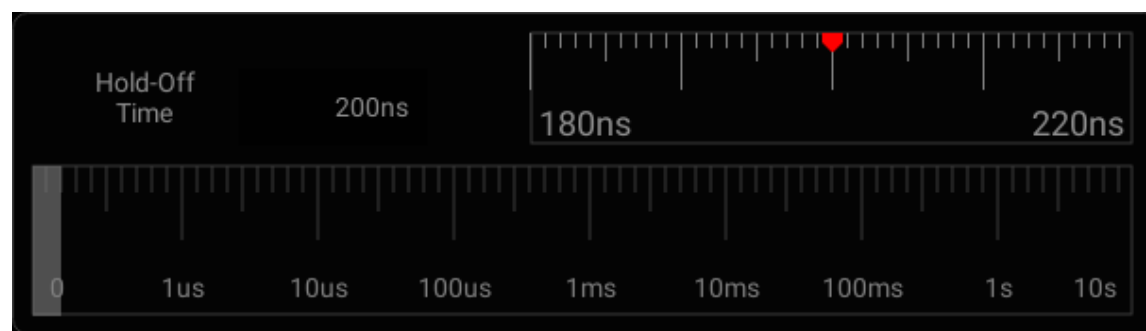

Figure 6-11 Trigger Hold-Off Time Set Interface
- 1) Tap “Trigger” on the main menu to open the trigger menu. Under “Common”, tap the box after “Rejection Time” to open the hold-off time adjustment interface. The trigger time is displayed on the upper left, the fine adjustment time scale is displayed on the upper right, and the coarse time scale is displayed below, as shown in Figure 6-11.
- 1) Tap “Trigger” on the main menu to open the trigger menu, select edge trigger in the trigger type, and set edge trigger as follows, as shown in Figure 6-11: